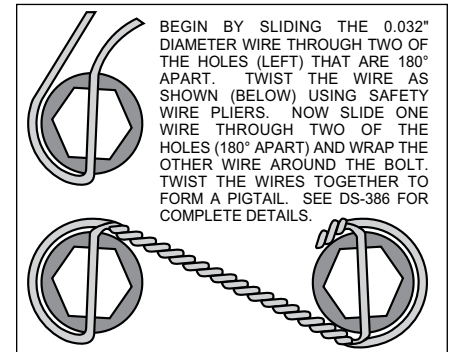

Figure 3. Safety Wire Diagram
- The caliper mounting bracket assembly (1) should be installed first with clean, dry threads on the mounting bolts. The bracket must tighten squarely against the inboard side of the caliper mount bosses on the spindle body. Inspect for interference from casting irregularities, machining ridges, burrs, etc. Slide bolt (2) through the hole in the spindle body where the OEM bolt was removed. Use one thin shim (4) between the bracket and spindle during initial trial fitting. Later, after the caliper, pad and rotor alignment have been checked, and any necessary shims have been put in place, the mount bolts (2) should be coated with red *Loctite*® 271 and torqued to 60 ft-lb.
- With the larger I.D. side of the rotor (5) facing away from the hat (6), bolt rotor (5) to hat (6) through the backside of the rotor using washers (7) and bolts (8). Apply red *Loctite*® 271 to the bolt threads and torque to 155 **in-lb** using a criss-cross pattern. For an added measure of security, the bolts may be safety wired using standard 0.032 inch diameter stainless steel safety wire as shown in Figure 3. Please refer to Wilwood's data sheet DS-386 (available at www.wilwood.com/Pdf/DataSheets/ds386.pdf) for complete safety wire installation instructions. Slide the rotor/hat assembly onto the spindle. Install a couple of lug nuts (hand tighten) to keep the rotor/hat assembly in place while continuing with the installation.